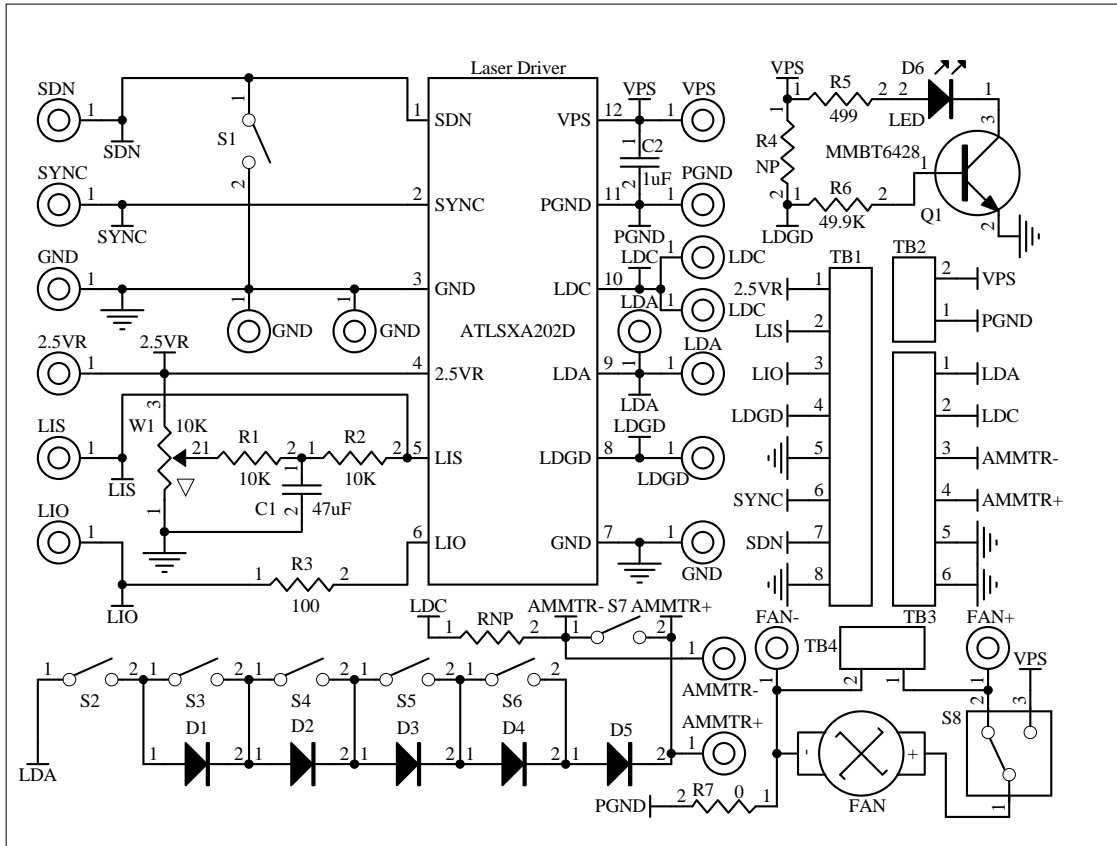

Figure 7. Schematic of Laser Driver ATLS202D Evaluation Board Rev. 1.0
The schematic is shown in Figure 7 below.
- B. Turn the switch S7 to its upper on position, thus the output current can go through the ammeter and be measured by reading Ammeter's value.; when the switch S7 is placed in the lower off position, the ampere meter is shorted, thus, it does not measure the output current, see the schematic shown in Figure 7.
6. Test the driver with the "dummy laser". The 5 diodes on the board, D1 to D5, can form a "dummy laser" to act as the laser diode in place of a real laser so that in case there is a problem in the circuit, the expensive laser would not be damaged, see schematic in Figure 7. Turn the switch S2 to the on position (upper), to connect the "dummy laser" to the driver. Turning switches S3, S4, S5 and S6, up and down will increase (turning down the switches) and decrease (turning up the switches) the forward voltage of the "dummy laser" which can be measured by a volt meter between the LDA and the ground. Each diode can increase or decrease the output forward voltage by about 0.7V when the output current is 4A. **Warning: when output 4A current, the diodes may get very hot, don't touch them with your fingers.** The switch bank and their corresponding diodes are shown in the table below. The diode D5 is always activated so that the total forward voltage range is from 0.7V to 0.7V + 0.7x4 = 3.5V. Please be aware of this fact: when the output voltage is low by shorting circuit all the diodes, the driver will consume a lot of power and may get too hot that the internal temperature protection circuit will shut off the driver automatically. When this happens, wait a few seconds, let the driver cool down, the driver will restart by itself again after the temperature is lowered to certain level. This is the way to calculate the power consumption of the driver: